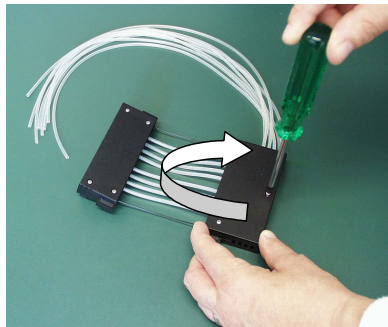

Figure 5-42. Fastening the cover retaining screws
14. Fasten the three cover retaining screws of the upper part of the dispensing cassette, leaving the front screw slightly open (Figure 5-42).